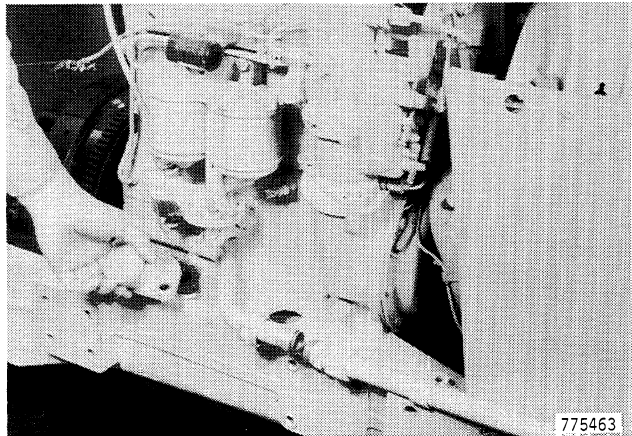

Figure 147
23. Install the dipstick housing using a new gasket, Figure 147.